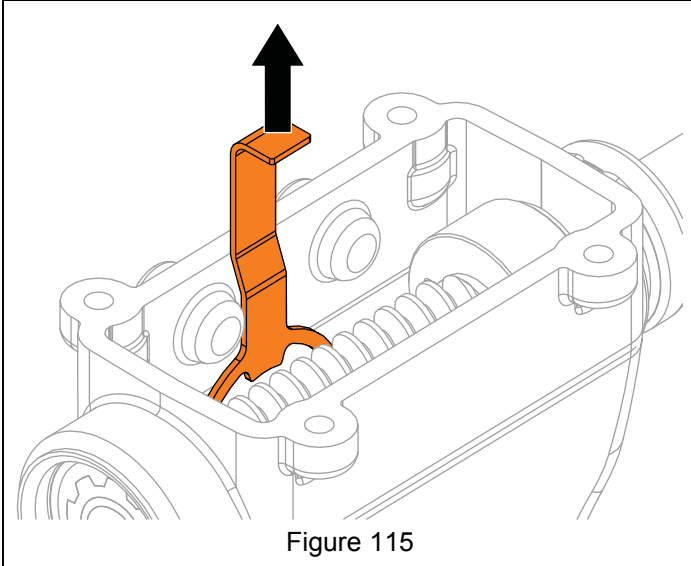

Figure 115
6. Remove bushing retainer from gearcase. See Figure 115.